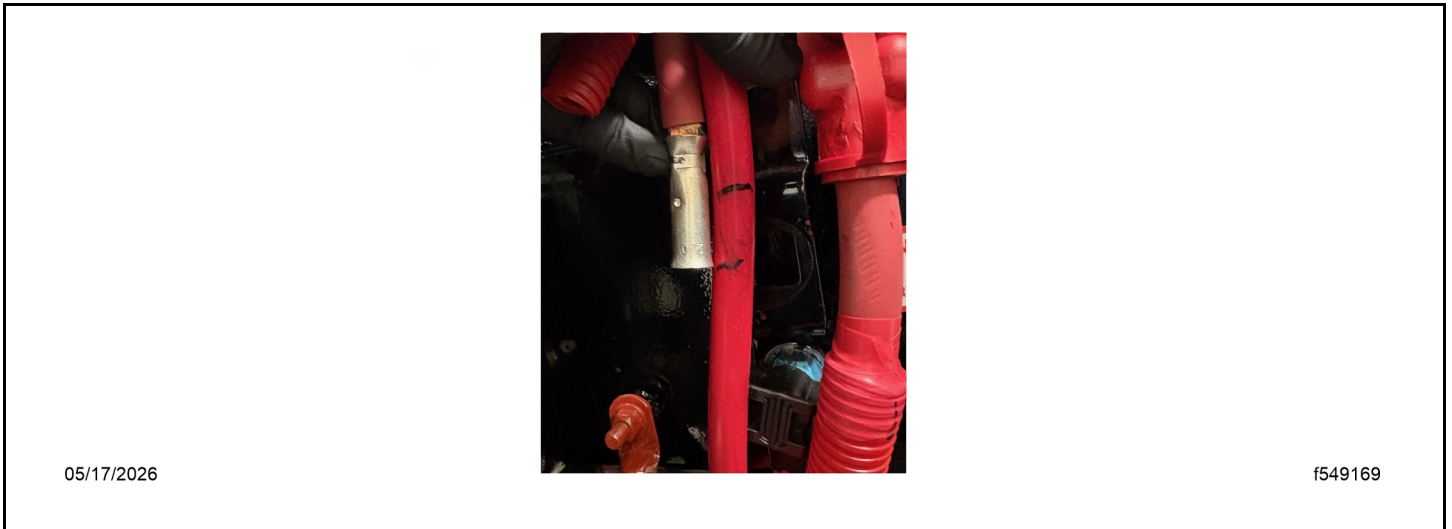

Fig 69, Determining the BCA Cable Length
37. Determine the ideal length for the new auxiliary BCA cable and starter cable between the starter and butt connector. Cut the cables. See Fig. Fig. 69.